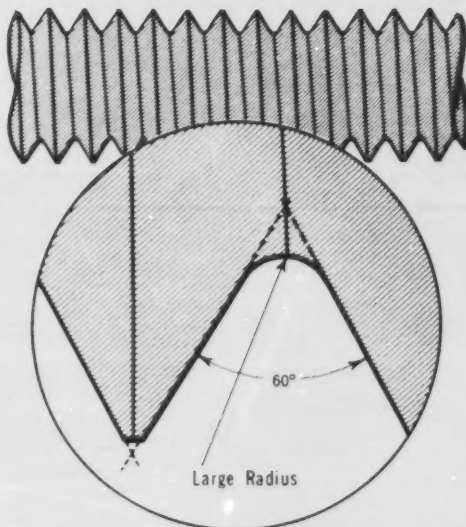

Figure 20-3. Modified Threading to Increase Strength of Fastener
c) The thread shown in Figure 20-3 is a modified Unified National Thread form that increases the strength of some fasteners. The modification consists of a large radius at the root of the thread; this removes the sharp corners that produce local stress concentrations under loads.